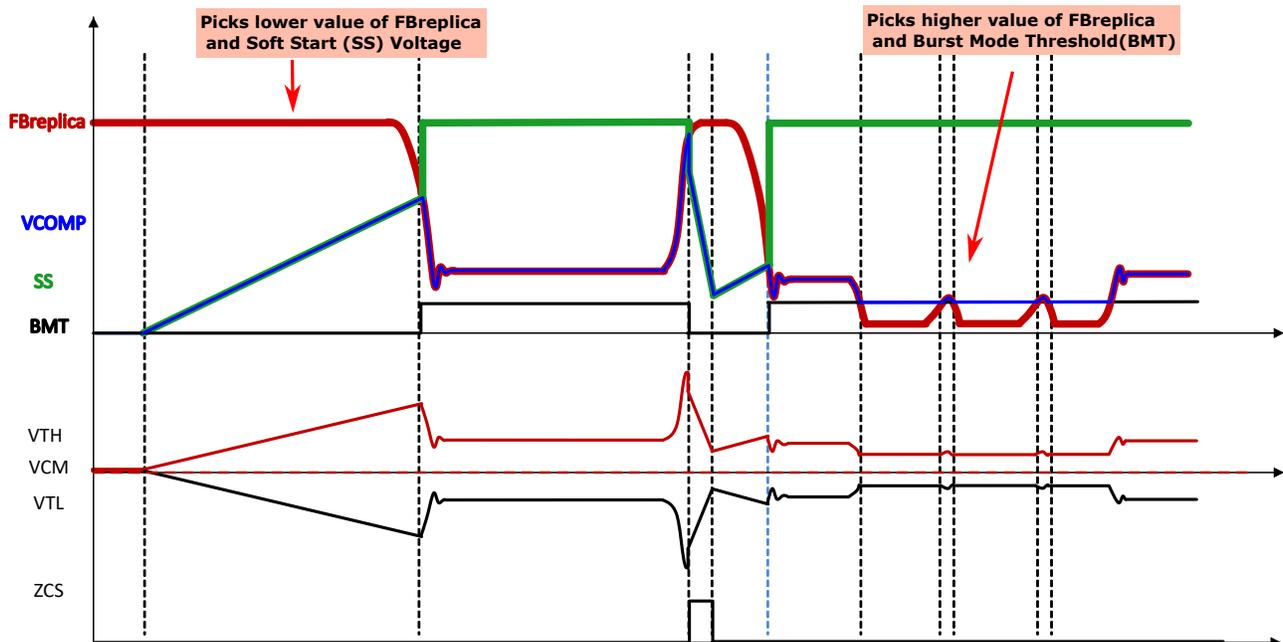
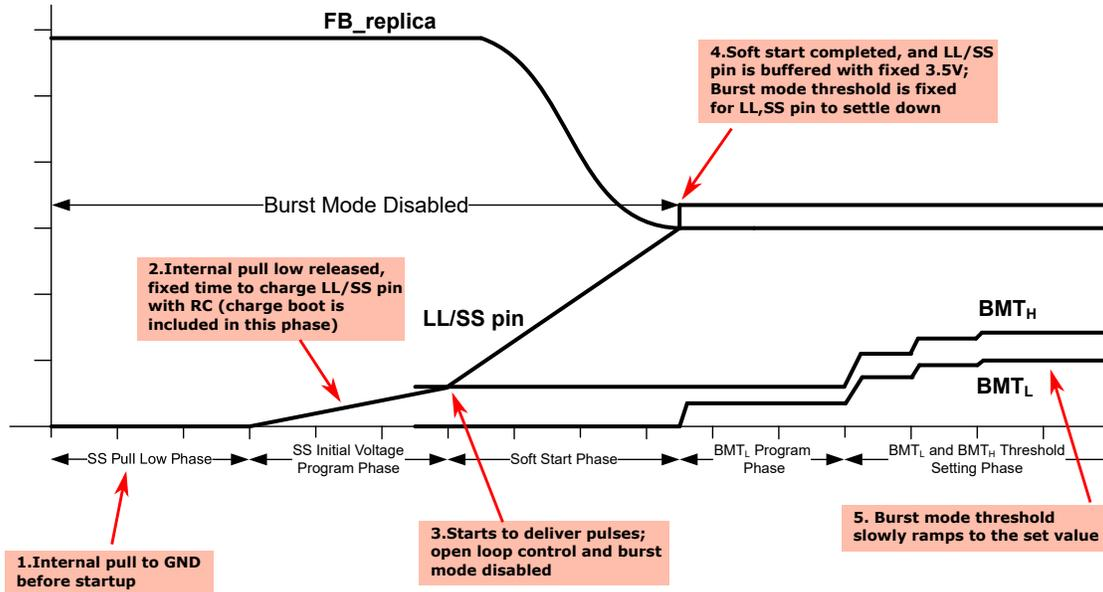

Figure 2-14. VTH and VTL During Startup, Burst Mode, ZCS and Normal Operation
Figure 2-20. Soft Start Timing
- Threshold voltages for VCR are given as $V_{TH} = V_{CM} + V_{comp}/2$ and $V_{TL} = V_{CM} - V_{comp}/2$ where V_{CM} is 3 V. These can be seen in Figure 2-14.
- LL/SS pin capacitor determines Soft start control signal ramp rate. This would make sure initial frequency is slowly ramps down until feedback signal takes over as shown in Figure 2-14. This ramp rate helps to avoid the stress in the power stage components during the startup. Note that burst mode is disabled during the soft start which is shown in Figure 2-20